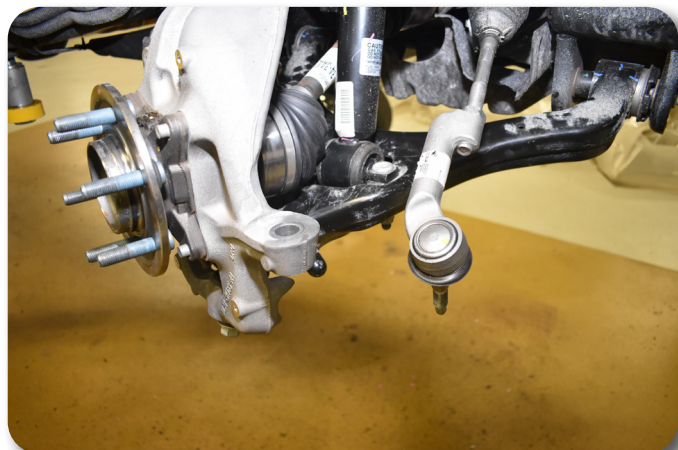

Figure 5
10. Disconnect the tie rod ends from the steering knuckles. Avoid hitting the aluminum steering knuckle, use appropriate tool to remove tie rod end from steering knuckle. Take care not to strike the tie rod end, or damage the threads and boot **Figure 5**.